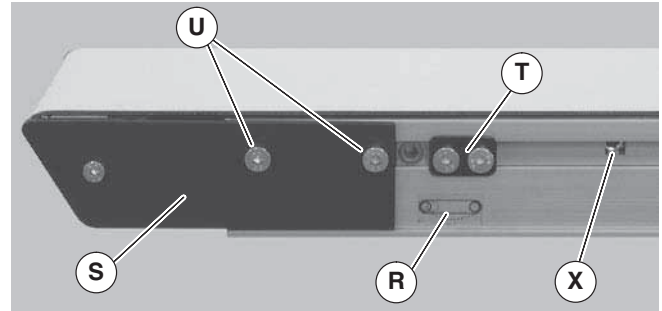
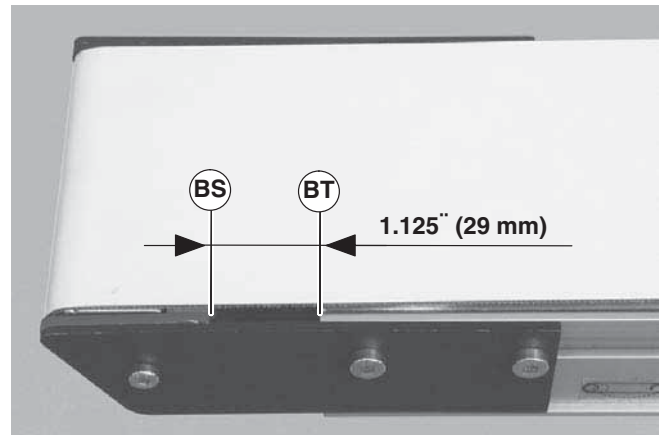

Figure 39
Figure 40
1. On tension end of the conveyor, identified with a  label (Figure 39, item R), adjust head plate assembly (S): On both sides of conveyor, loosen fastening screws (U) and rotate pinion gear (X) to adjust head plate assembly.
2. Adjust head plate assembly so the edge of the axle support plate (Figure 40, item BS) is separated from the end of the conveyor (BT) by 1.125" (29 mm). Tighten fastening screws (Figure 39, item U) on both sides of conveyor to 60 in-lb (7 Nm).
3. If equipped with cam tracking assemblies (Figure 39, item T) position against head plates and adjust belt tracking. Refer to "Conveyor Belt Tracking", page 18.